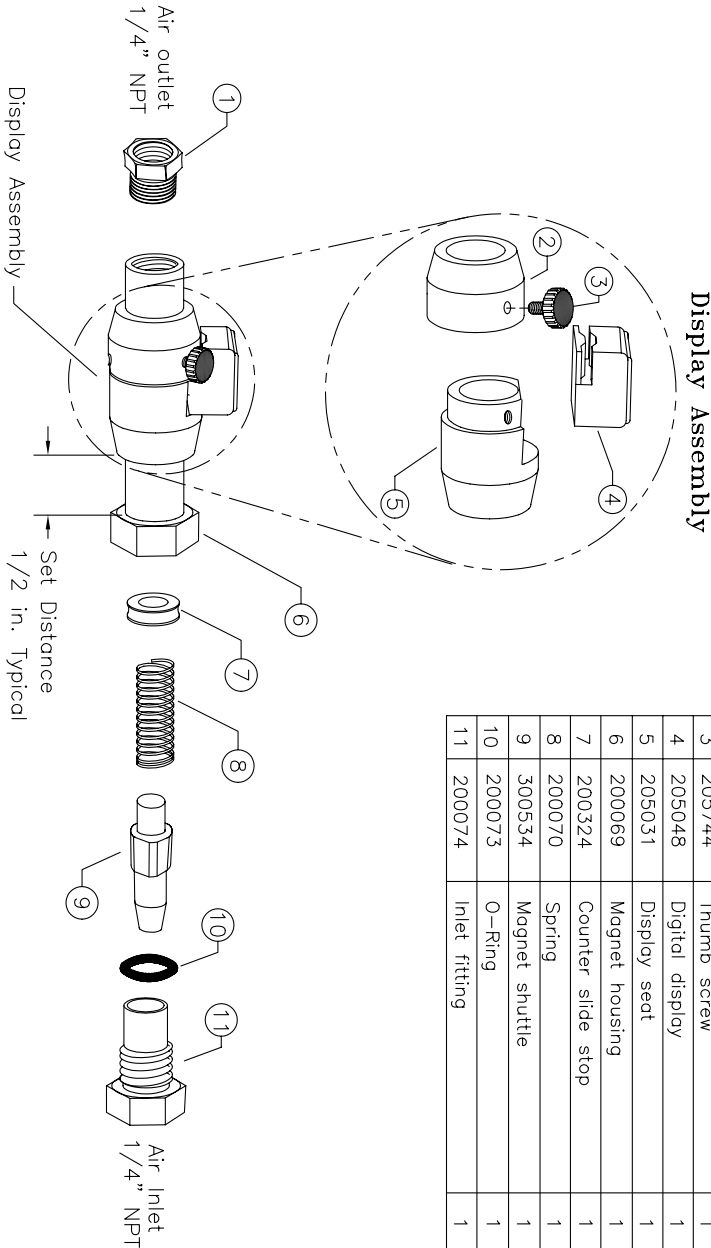

Figure 36 - Pump Cycle Counter Exploded View
- STEP 1 -** Loosen, but do not remove, the thumb screw (**item #3**) that locks the Display Assembly. (See **Figure 36**)
Sometimes the PCC does not count due to either the magnet shuttle or the spring hanging up inside the magnet housing. The counter components can be cleaned by *gently* washing the unit in warm water. A soft brush may be used to remove debris. To clean the inside, follow these instructions: **(See Figure 36)**
As a precaution, mark and/or measure with a pencil, the set distance **(See Figure 36)** so that it can be reset in the same position should movement occur. Do not loosen the thumb screw **(item #3)** since movement of the Display Assembly is unnecessary for cleaning.
Assembly of the Digital Display (Figure 36)
- STEP 1 -** Seat the digital display (**item #4**) on the flat of the display seat (**item #5**). (See Figure 36)